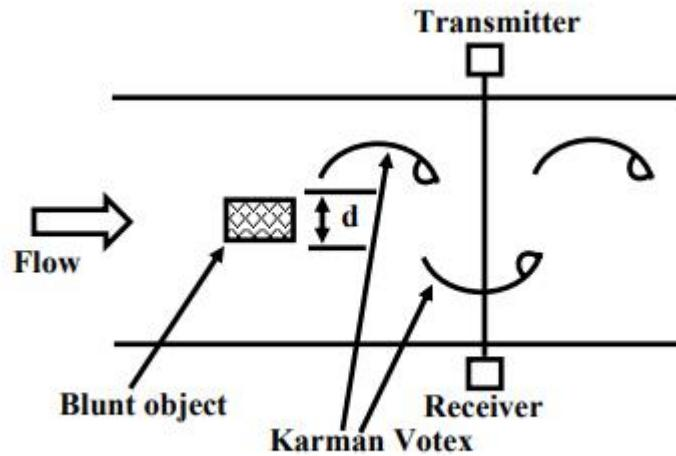

Fig. 12 Vortex type flowmeter
- Fig.12 shows the basic principle of vortex type flowmeter. It is based on the principle of vertex shading. When a blunt object is placed on the passage of a flowing stream, vortices are formed. A vortex of this sort is called Karman Vortex. If the flow is turbulent and the Reynold's number is $R_D > 10^4$, then the frequency of vortex formation is given by:
- The fig. 12 shows a typical arrangement of measurement of frequency of vorticex formation using ultrasonic technique. Formation of a vortex will modulate the intensity of ultrasound received by the receiver, and the frequency of modulation can be measured easily.